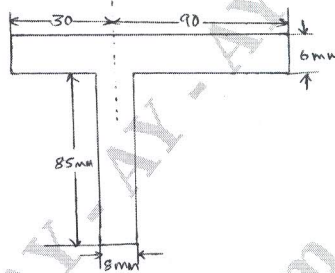

Fig. Q1 (b)
- b. A Beam having the cross section shown in Fig.Q1 (b) is subjected to pure bending moment of 1600 Nm. Calculate the maxi direct stress and the point where it acts. (08 Marks)